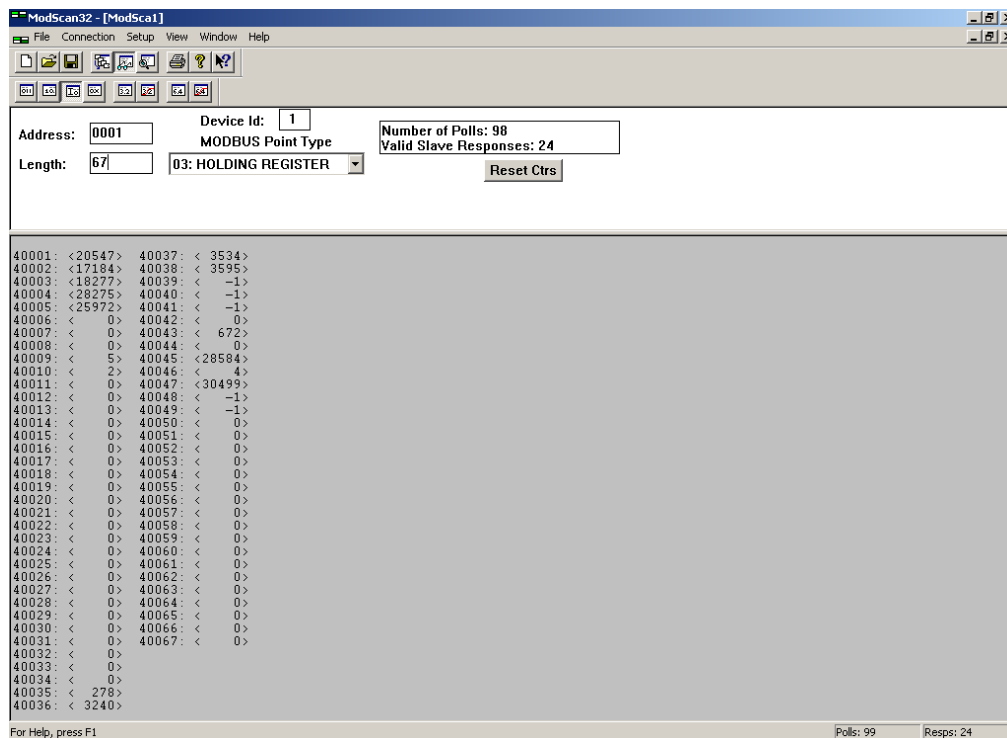

FIGURE 20-18. MODBUS POINT TYPE = HOLDING REGISTER
- On the main ModScan screen (see Figure 20-18), Change the Address to 0001, the Length to 49 (ModLon Mapping Template 1 or 65 (ModLon Mapping Template 2, ModLon Mapping Template 3), and the Device ID to 1. From the MODBUS Point Type pull down menu, select “03: HOLDING REGISTER.”